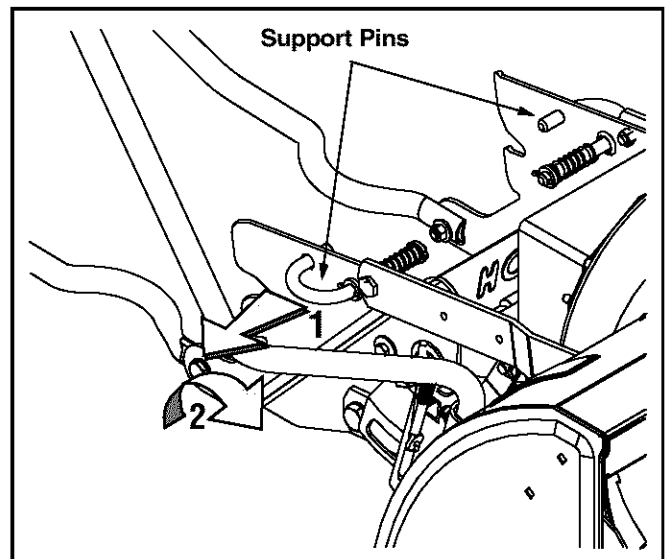

Figure 13
2. Pull the support pin on the right side of the upper lift link outward and rotate it forward so it remains in the "out" position. See Figure 13.